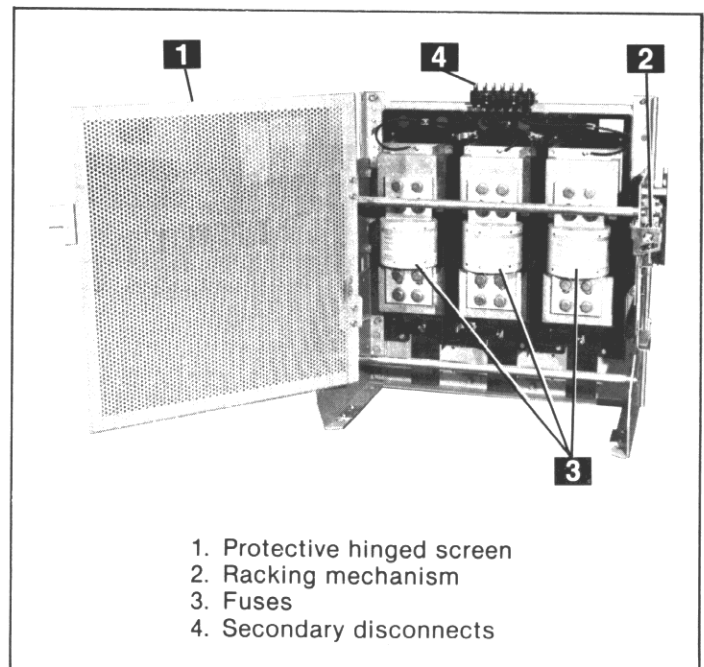

Fig. 3-17. Fuse roll-out carriage
A. AKR-75 Fuse Rollout Carriage (Fig. 3-17)